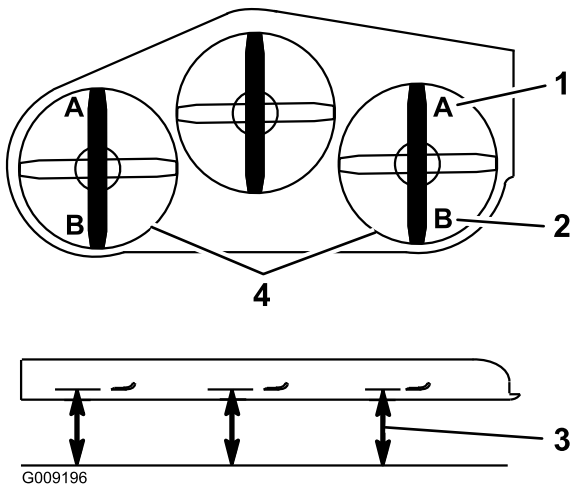

Figure 86
- 9. On both sides of the deck, measure from the level surface to the front tip of the blade (Position A). The measurement should read 3 inches (7.6 mm) (Figure 86).
- On both sides of the deck, measure from the level surface to the back tip of the blade (Position B). The measurement should read 3 1/4 inches (8.3 cm) (Figure 86).